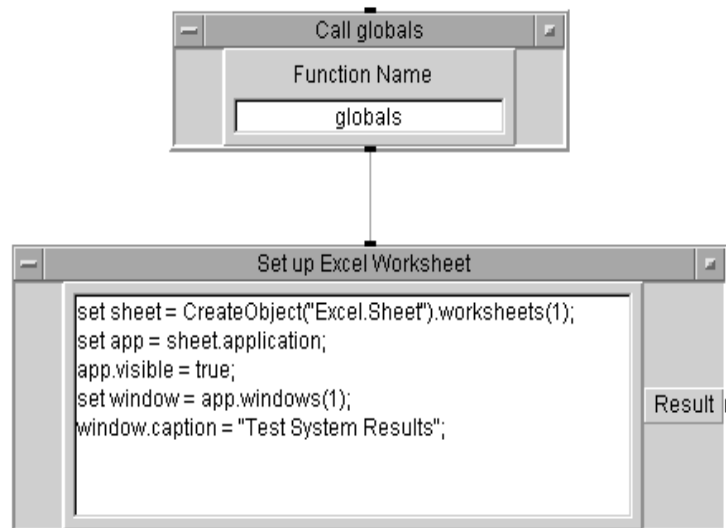

Figure 151 Setting Up the MS Excel Worksheet
- 8 Inside **Set up Excel Worksheet**, enter the lines shown in Figure 151. Notice that semicolons are used for line separators, just as in ANSI C.